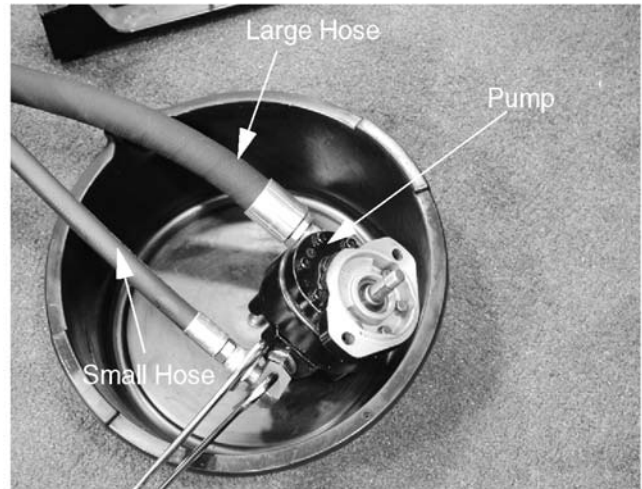

Figure 8-98.
20. Remove the small hose from the pump using a 1" wrench and a 11/16" wrench. See Figure 8-98.